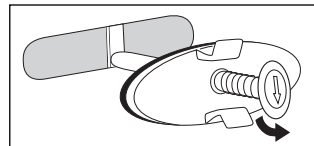

Fig. 5
- Turn the roll pin through 90° and slowly release it (Fig. 5).